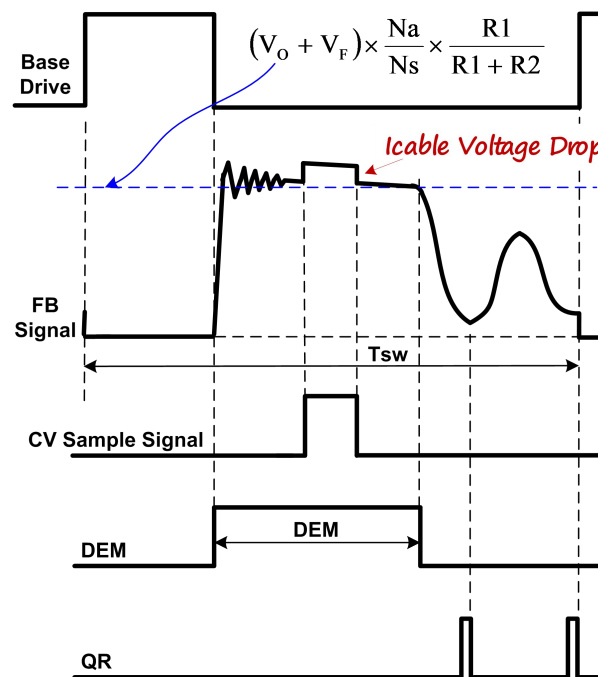

Fig.2
output voltage is sensed on the auxiliary winding during the transfer of transformer energy to the secondary. Fig.2 illustrates the timing waveform of CV sampling signal, demagnetization signal (DEM) and quasi-resonant (QR) trigger signal in DP2525F. When the CV sampling process is over, the internal sample/hold (S&H) circuit captures the error signal and amplifies it through the internal Error Amplifier (EA). The output of EA is sent to the Quasi Resonant PSR CV Modulator (QR-CVM) for CV regulation. A valley is selected to trigger new PWM cycle by the output of the QR-CVM block, which is determined by the load. The internal reference voltage for EA is trimmed to 2V with high accuracy.
During the CV sampling process, an internal variable current source is flowing to FB pin for Cable Drop Compensation (CDC). Thus, there is a step at FB pin in the transformer demagnetization process, as shown in Fig.2. Fig.2 also illustrates the equation for “demagnetization plateau”, where Vo and Vf is the output voltage and diode forward voltage; R1 and R2 is the resistor divider connected from the auxiliary winding to FB Pin, Ns and Na are secondary winding and auxiliary winding